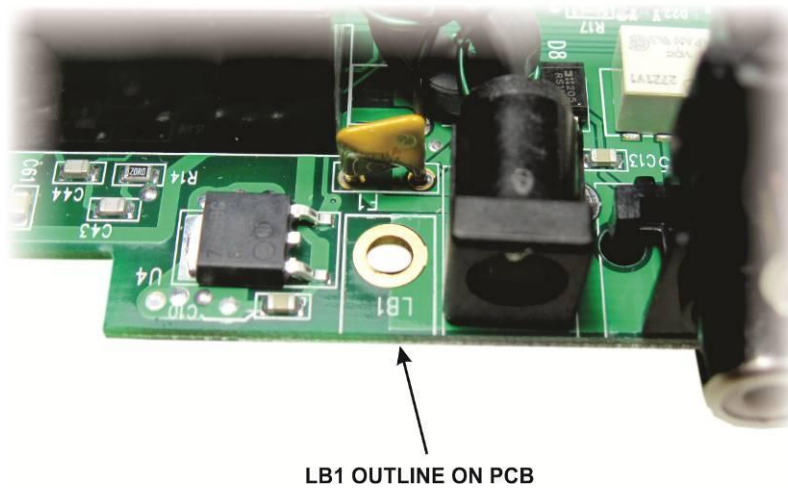

Figure 10. Angle Bracket LB1 Mounting Location
- Locate the outline marked LB1 on the pc board. It is on the connector edge of the board next to the power connector (see Figure 10).